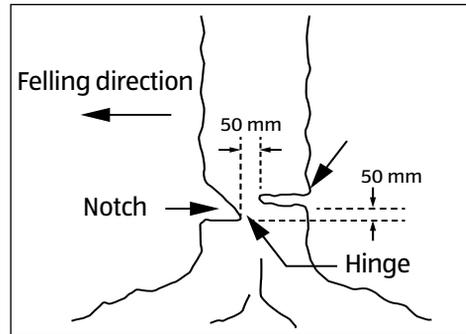

Fig. 2
This will help to avoid pinching of either the saw chain (4) or the guide bar (blade (3)) when the second notching cut is being made (see Fig. 2).
The hinge wood keeps the tree from twisting and falling in the wrong direction. Do not cut through the hinge (see Fig. 2).